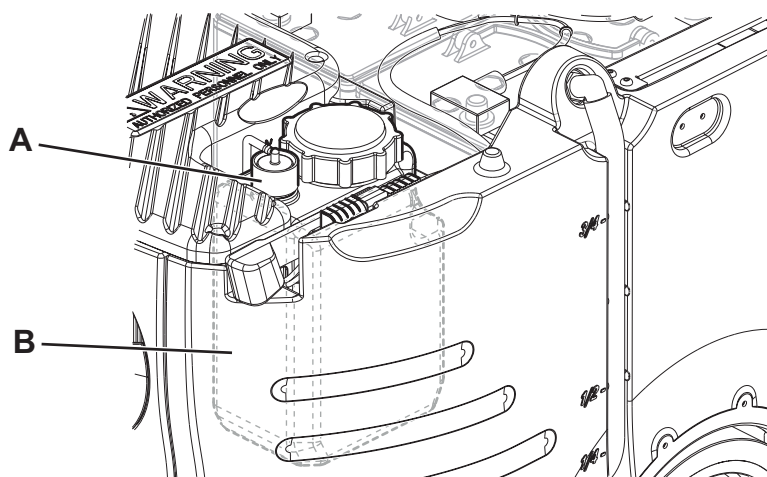

Figure 13
2. Ensure that the machine is off and the operator key (41) has been removed.
3. Lift the cover (29) and check that the recovery tank (17) is empty; if not, empty it using the drain hose (26).
4. Close the cover (18).
5. Grasp the handle (35) and carefully lift the recovery tank assembly (17).
6. Unscrew the cap (A, Fig. 13) from the detergent tank (B).
9. Replace the detergent tank (B) as shown in the figure, then refit the cap (A).